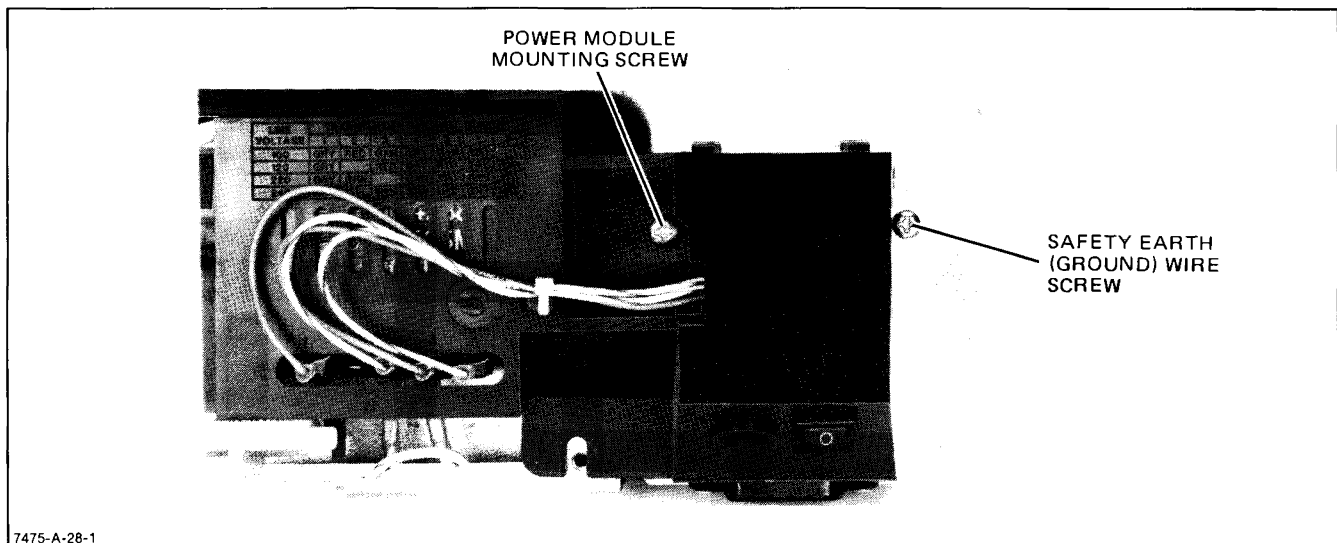

Figure 6-20. Power Module Removal
To protect against possible electrical shock, Be sure to replace the safety earth (ground) wire and tighten the screw securely. See Figure 6-20.
- c. Remove the safety earth (ground) wire screw at the left end of the power module. See Figure 6-20.
- f. Remove the screw in the power module. See Figure 6-20.